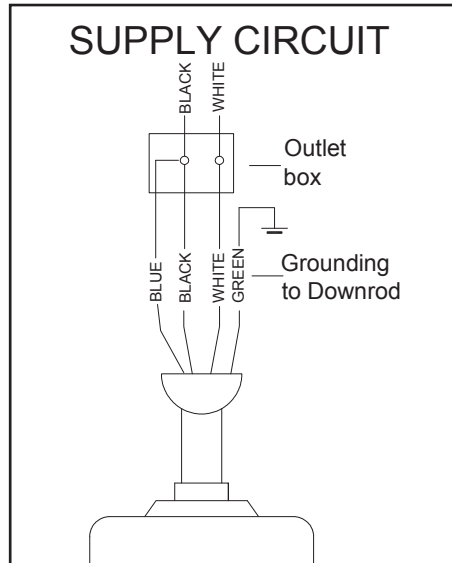

Figure 9
Follow the steps below to connect the fan to your household wiring. Use the wire connecting nuts supplied with your fan. Secure the connectors with electrical tape and ensure there are no loose strands or connections. (Figure 9)
3. Connect the fan supply (black and blue) wire to the black household supply wire as shown in figure 9.